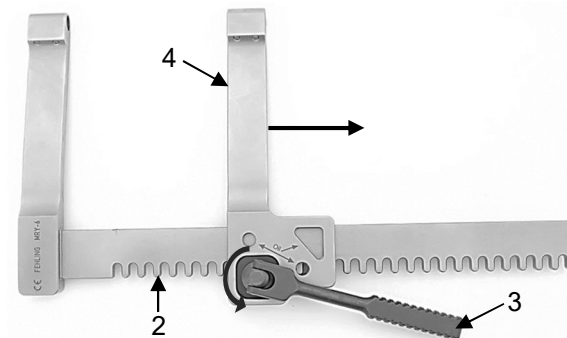

Fig. 18
By rotating the drive lever (3) counterclockwise, transport the movable retractor arm (4) on the toothed rack (2) outwards until it can be removed (Fig. 18).